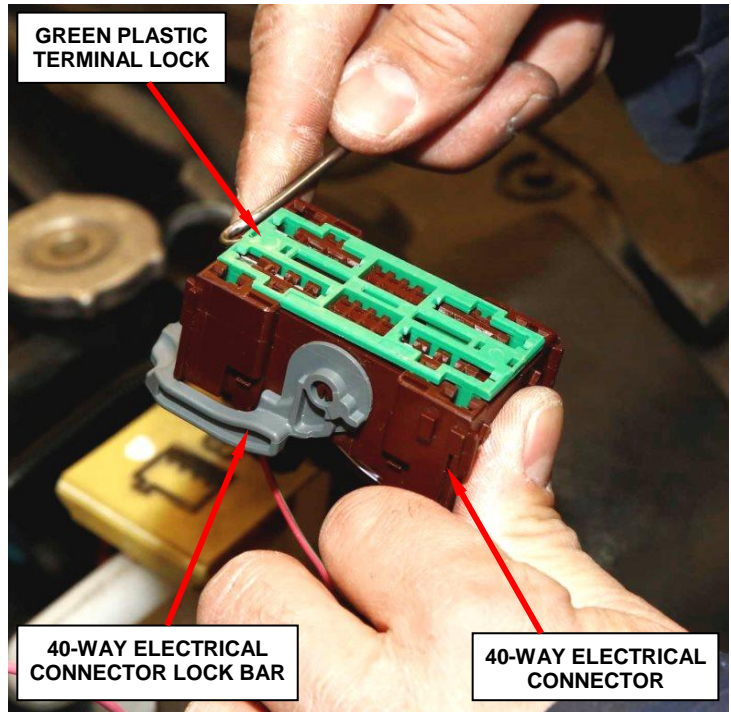

Figure 24 – Green Connector Lock
- 19. Remove and save the 40-way electrical connector green plastic terminal lock (Figure 24).